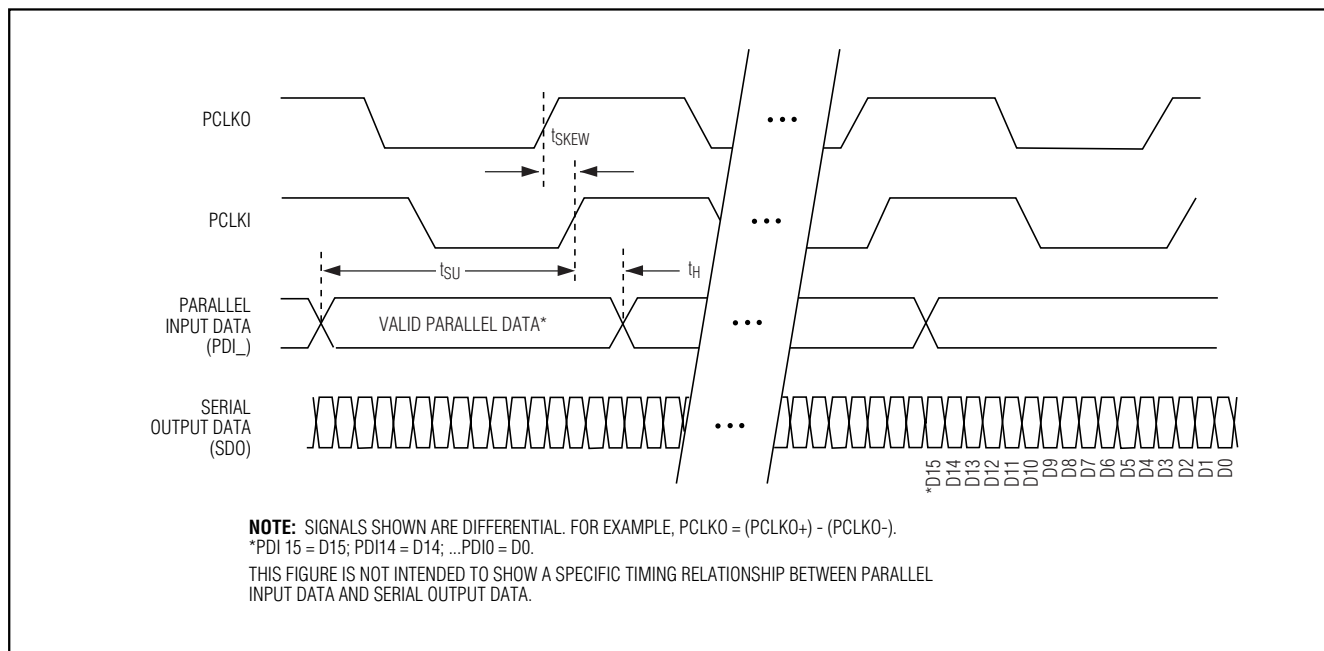

Figure 2. Timing Diagram
**Note 2:** Setup and hold times are relative to the rising edge of PCLKI+, measured by applying a 155.52MHz differential parallel clock with rise/fall time = 1ns (20% to 80%). See Figure 2.
(tsKEW) that is defined with respect to the parallel-clock-output signal (PCLKO). PCLKO is the synthesized 2.5Gbps internal serial-clock signal divided by 16. The allowable PCLKO-to-PCLKI skew is 0 to +4ns. This defines a timing window after the PCLKO rising edge, during which a PCLKI rising edge may occur (Figure 2).